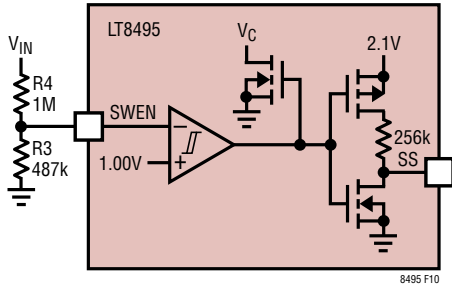

Figure 10. VIN Undervoltage Lockout
**Input UVLO:** Connecting a resistor divider from VIN to SWEN (see Figure 10) implements an input undervoltage lockout circuit. SWEN has an accurate rising threshold of 1.0V with 30mV of hysteresis (typical—see Electrical Specifications). By connecting a resistor divider from VIN to SWEN, the LT8495 will be programmed to disable the switching regulator when VIN drops below a desired threshold. Typically, this threshold is used in situations where the input supply is current limited, or has a relatively high source resistance. A switching regulator draws constant power from the source, so source current increases as source voltage drops. This looks like a negative resistance load to the source and can cause the source to current limit or latch low under low source voltage conditions. The input UVLO prevents the regulator from operating at source voltages where the problems might occur.
As shown in Figure 10, by connecting a resistor divider from VIN to SWEN, the falling undervoltage lockout threshold is set to:
From the previous equation, the resistor divider shown in Figure 10 gives the VIN pin a falling undervoltage lockout threshold of 2.96V. When VIN is below this threshold, the switching regulation is disabled and the SS pin starts to discharge. After choosing the value of R3, for example, R4 can be calculated using: